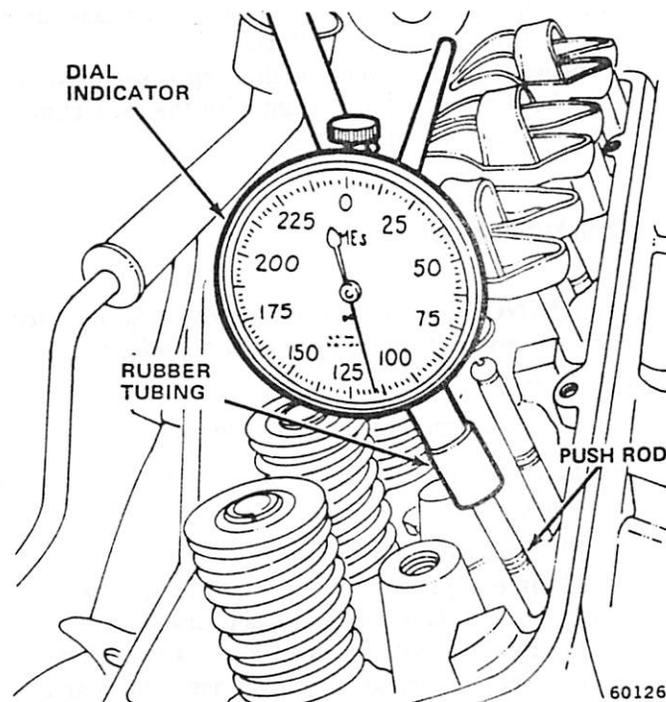

Fig. 1B-111 Cam Lobe Lift Measurement
(1) Remove cylinder head cover and gasket.
(2) Remove bridge and pivot assemblies and rocker arms. Alternately loosen capscrews one turn at a time to avoid damaging bridge.
(3) Remove spark plugs.
(4) Use piece of rubber tubing to secure dial indicator on end of push rod (fig. 1B-111).